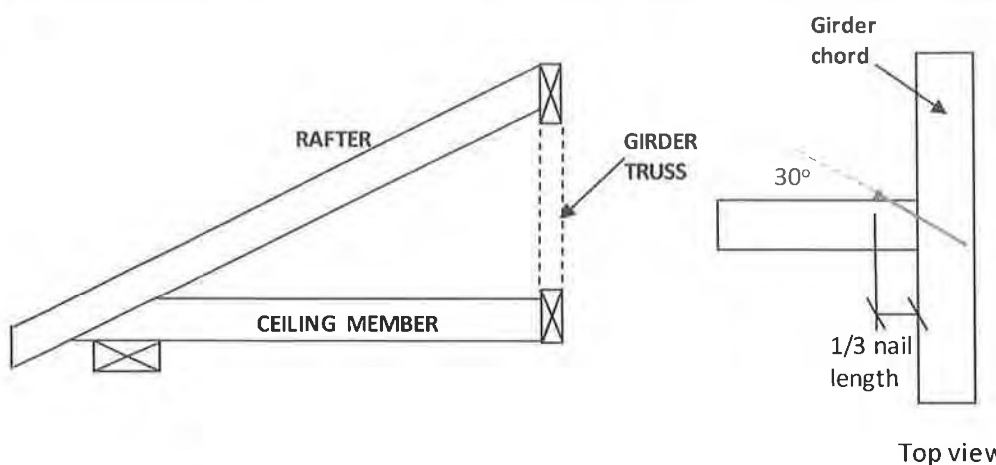

Figure 1: Toe-Nailing Rafter / Ceiling Member to Girder Truss
1. Rafter and ceiling members may be connected to top and bottom chords of girder truss by toe-nailing the members into the girder chords (see fig. 1), provided the factored vertical reactions of the supported members do not exceed the lateral resistance of the toe-nails. Mechanical connectors (hangers) are required if factored vertical reactions exceed the toe-nail capacity, or if the connection must resist horizontal loads (loads perpendicular to the face of girder or rafter).